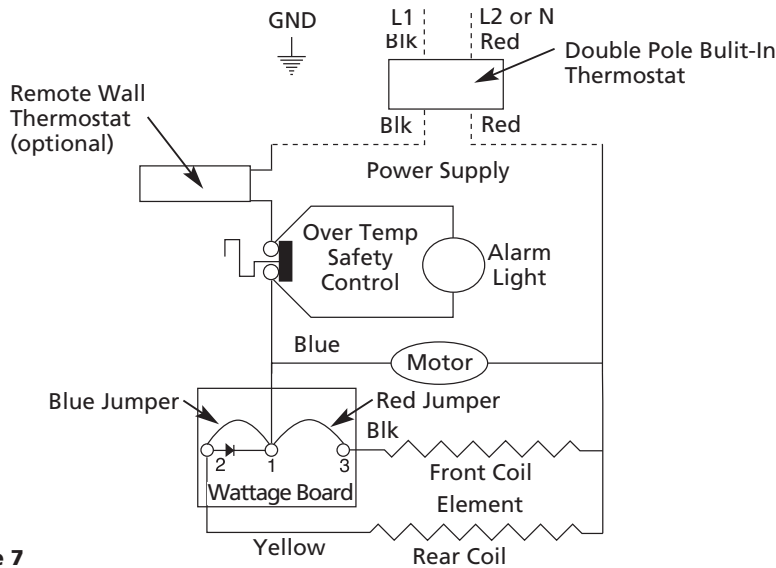

Figure 7
4. Connect one red and one black thermostat lead to power wiring per wiring diagram (Figure 7) using properly sized listed wirenuts (provided).
3. Make wiring connections, attaching one red and one black thermostat lead to two (2) black heater leads for 240V or to black and white heater leads for 120V with wirenuts (provided). Connect field ground lead to bare ground wire with wirenut (provided) (see Figure 7).